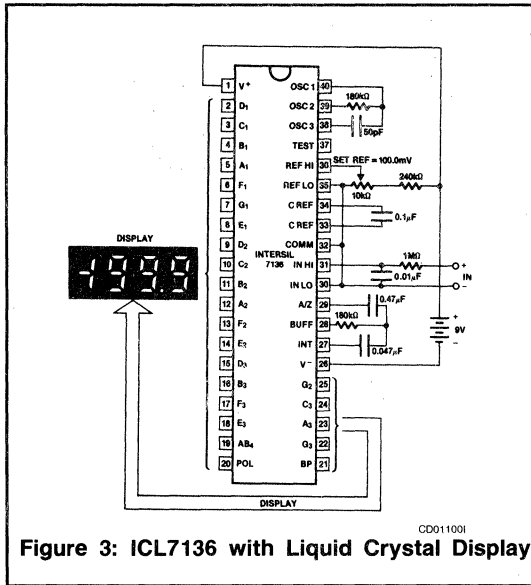

Figure 3: ICL7136 with Liquid Crystal Display
- NOTES: 3. Unless otherwise noted, specifications apply at TA = 25°C, fclock = 16kHz and are tested in the circuit of Figure 3.